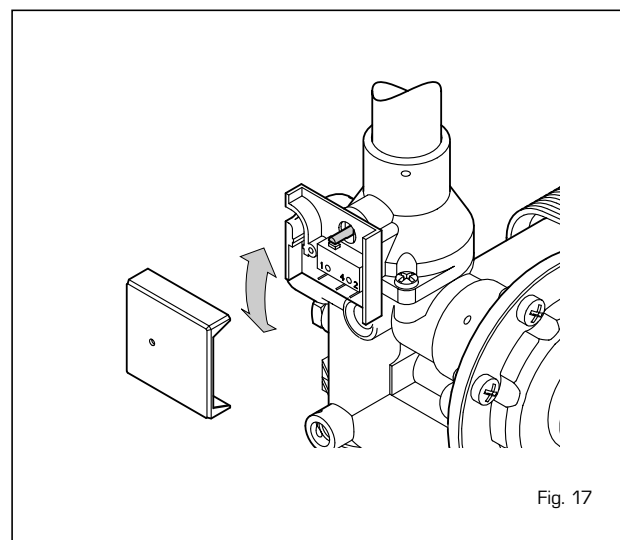

Fig. 17
- Ensure the spindle is free to move (see fig. 17).